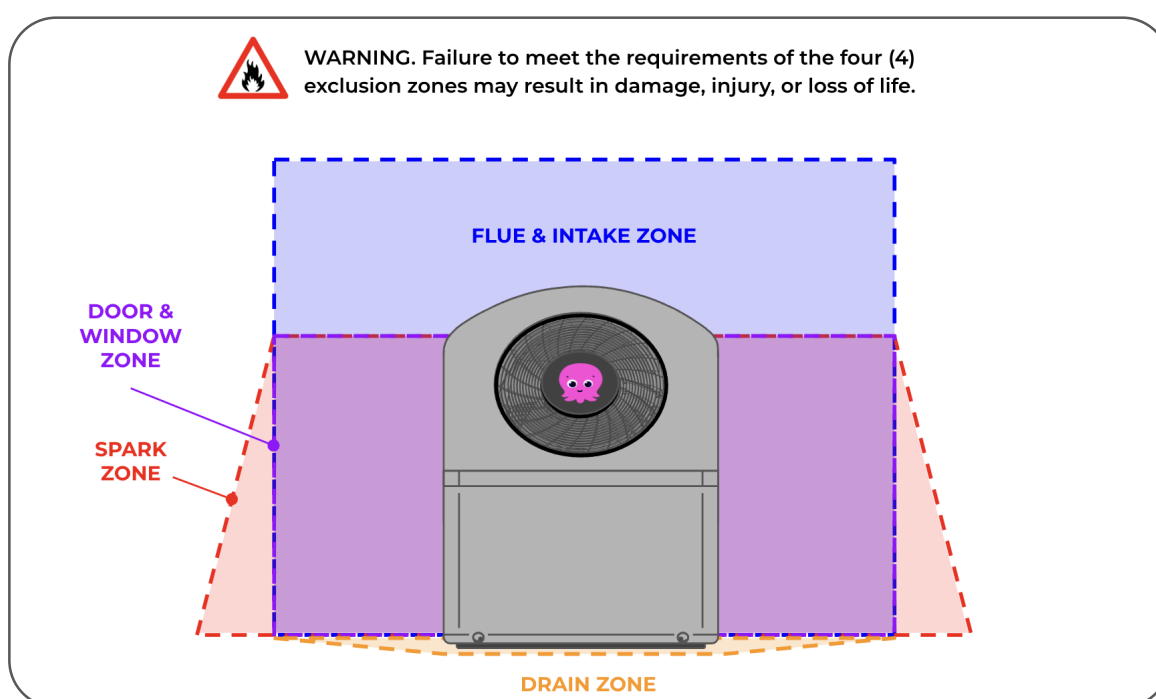

Figure 6.5 - R290 Safety Clearance Zones
Additional clearances must be met for safety due to R290. These clearances are in addition to the operational clearances listed in the preceding section. Safety clearances consist of four (4) distinct but overlapping zones around the unit. These zones are depicted together below. The four zones and their criteria are described individually in detail in the following sections. See *Figure 6.5* and *Table 6.B* below for a summary of clearances and restrictions.